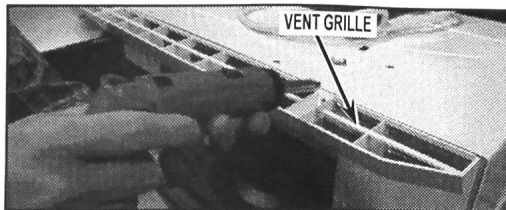

FIGURE 1
2. Remove vent grille assembly. See Figure 1.